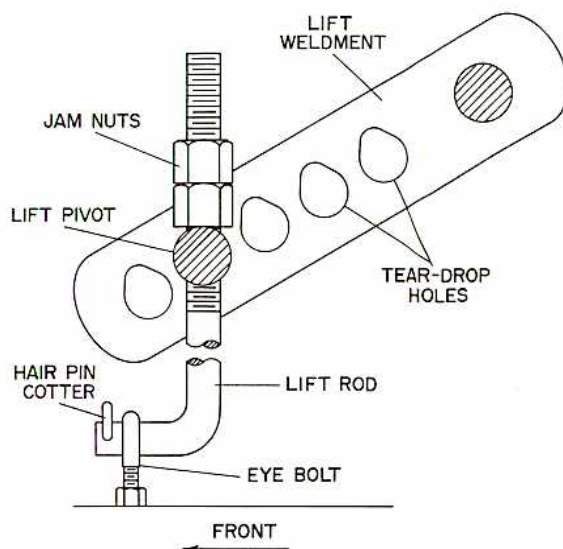

fig 5
3. Lower equipment lift all the way down. Turn lift rod upside down (bent portion up) and put lift pivot in second hole from the end of the lift weldment. Put it in from the left side, fig 5.